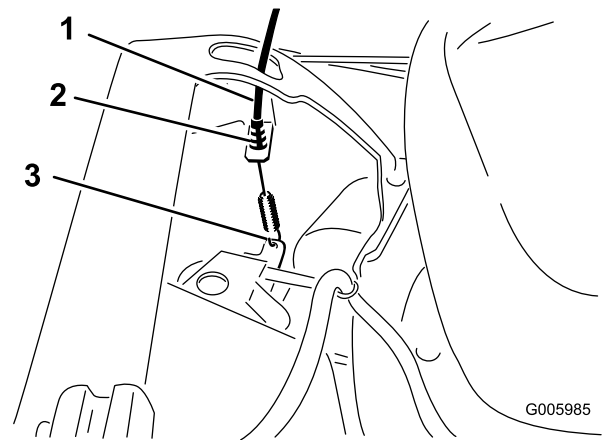

**Figure 6**
3. Route the blade-brake cable down the inside of the handle and attach the cable end (Figure 6).